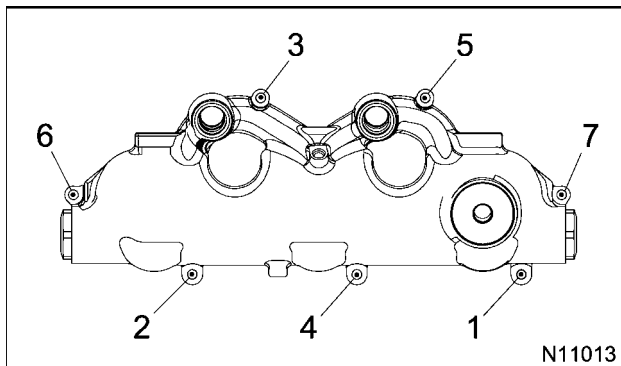

Figure 12 Oil Rail Torque Sequence
25. Tighten M6 x 40 bolts to 13 Nm (115 lbf-in) torque in the above sequence (Figure 12).